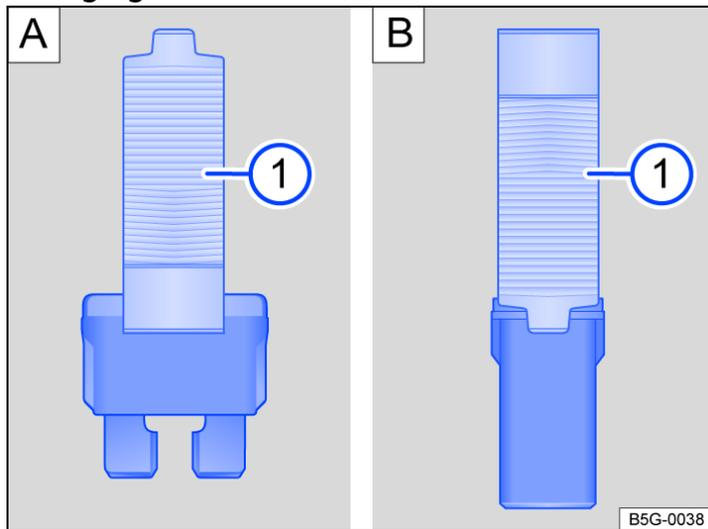

Fig. 2 Removing or inserting fuse with plastic grippers (illustration).
① Plastic grippers.
1. If applicable, take the plastic grippers out of the fuse box or the cover of the respective fuse box → Fig. 2 ①.
2. Push the plastic grippers clip suitable for the fuse design onto the fuse from the top or the side → Fig. 2.